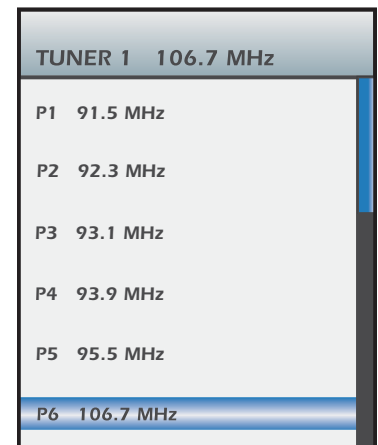

Figure 33
2. **Press** the **Click Button** to **select** the **highlighted Tuner**. The selected tuner will appear at the top of the LCD with the Presets and functions displayed in the LCD. (Refer to **Figure 33**)